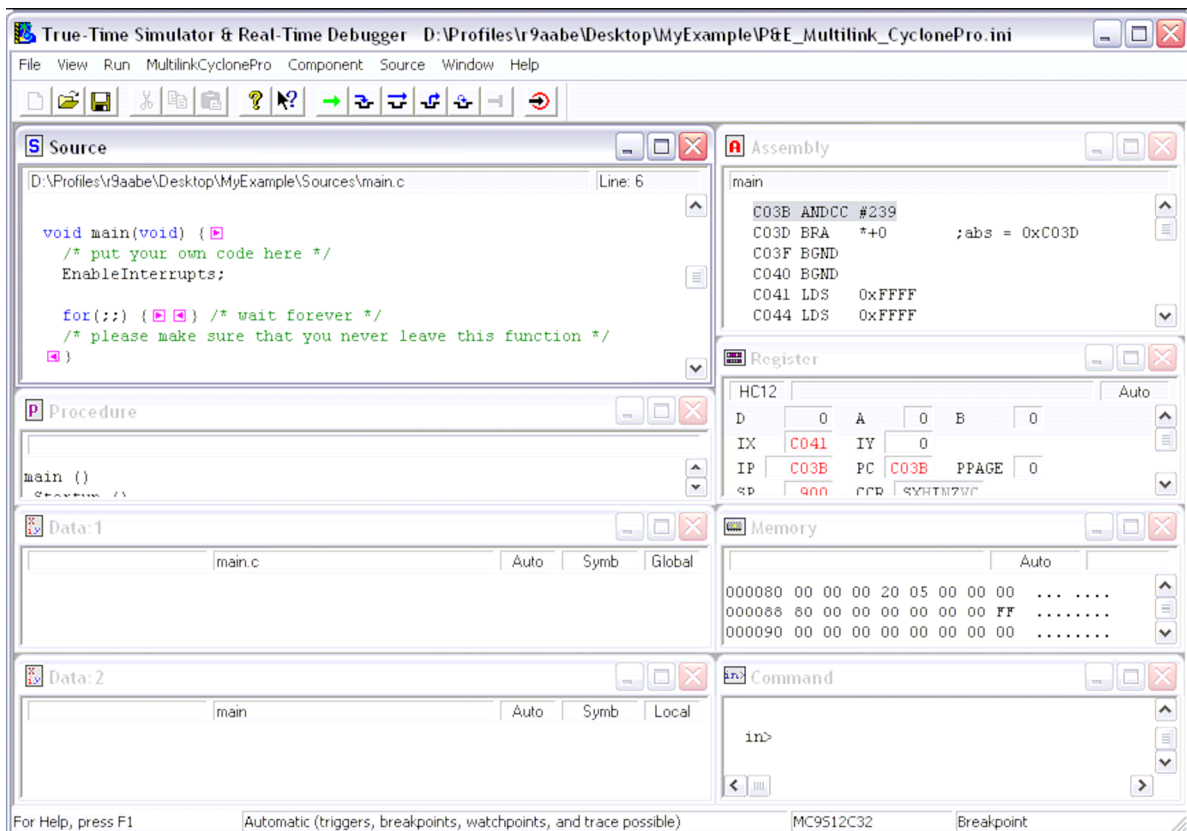

Figure 15. CodeWarrior Debugger Window
- 2.5 Once the debugger is launched a window similar to Figure 15 will appear. The operation of the various subwindows is listed in Table 3 on the subsequent page. The configuration of sub-windows can be user configured and saved using File->Save Workspace